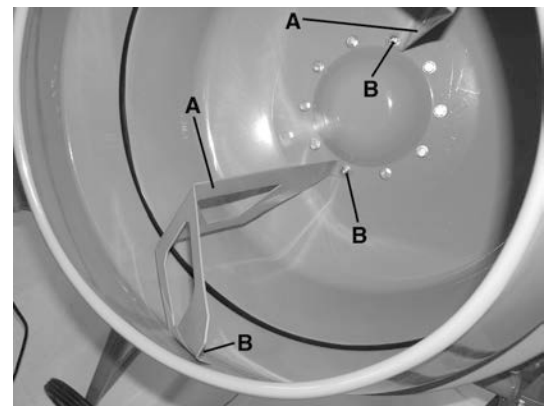

FIGURE 17
1. Mount both mixing paddles (A) Fig.17 inside the assembled drum as shown.
2. Fasten paddles to drum using 4 short hex. bolts, washers, and flange hex. nuts (B).